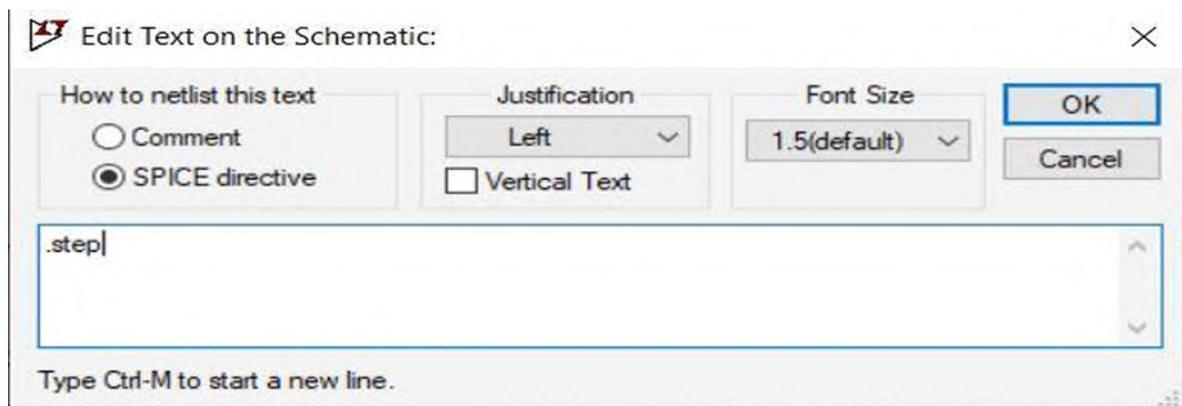

Figure: 3
- To set multiple values of {R} in the simulation click the SPICE Directive on the top right corner to open the Edit Text on the Schematic box as shown in figure 3.
- Write .step as shown in figure 3.